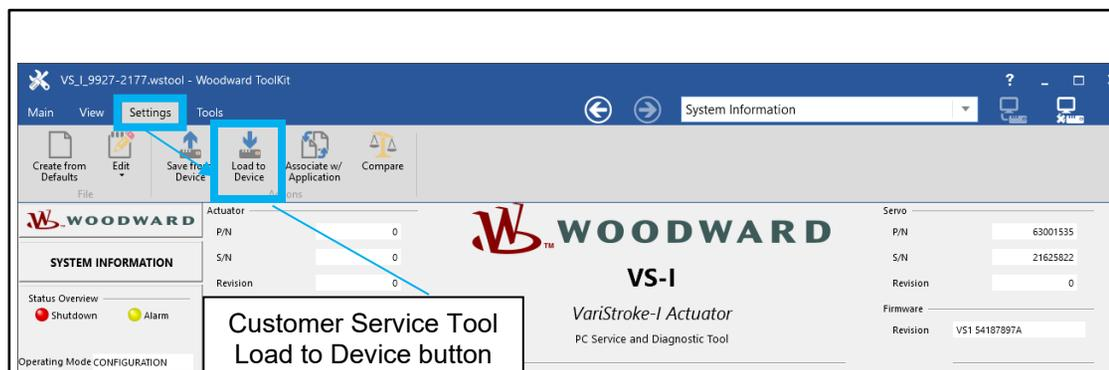

Figure 2-62. Settings File Loading to VariStroke
38. Load the VariStroke settings file from a PC to the new VS-GI (Figure 2-62). Click on Settings in the ribbon at the top left of the page and select “Load to Device”.
47. Load the VariStroke settings file from a PC to the new VS-GI once again– this is to retrieve all customer specific configurations (Figure 2-62):